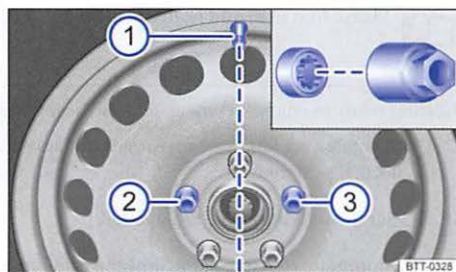

Fig. 183 Changing a wheel: Tire valve (1) and installation points for the anti-theft wheel bolt (2) or (3).
Before attaching the wheel cover, the anti-theft wheel bolt must be installed at point ⇒ page 332, fig. 183 ② or ③. Otherwise, the wheel cover cannot be installed.
Make sure that the valve cut-out is aligned with the valve ⇒ page 332, fig. 183 ①, and press the wheel cover onto the wheel rim. Make sure that the wheel cover is latched onto the rim along the entire circumference. ◀
On a wheel with a wheel cover, the anti-theft wheel bolt must be installed at points $\Rightarrow$ fig. 183 (2) or (3). Otherwise, the wheel cover cannot be installed.
- Place the anti-theft wheel bolt in position $\Rightarrow$ page 332, fig. 183 ② or ③. Hand tighten it using the adapter by turning clockwise.